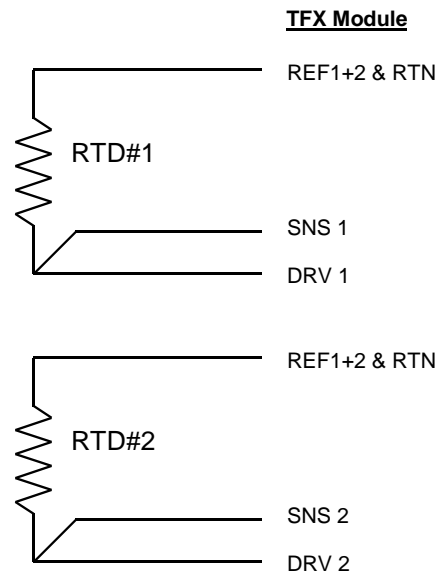

Figure 2
5. Route a cable from the electrical junction box back to the TFX flowmeter. Connect the RTDs as illustrated in Figure 2. Note that the SNS1 and DRV1 wires originate from the same location on the RTD.